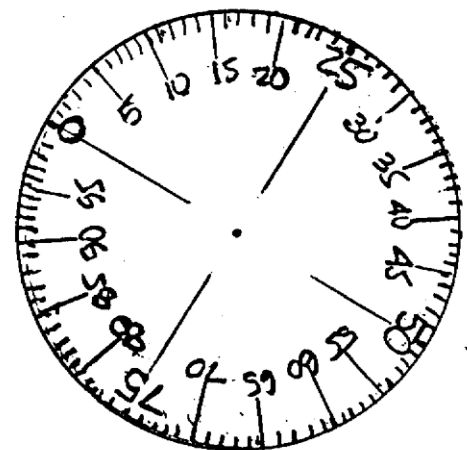

Figure 2
1. Photocopy the micrometer dial in Figure 2 onto cardstock, and cut it out. (Alternatively, you can photocopy the micrometer dial on regular paper, cut it out, glue it onto an index card, and cut it out again. Or you can draw your own dial on an index card, and cut it out – just be sure it has 100 divisions.)